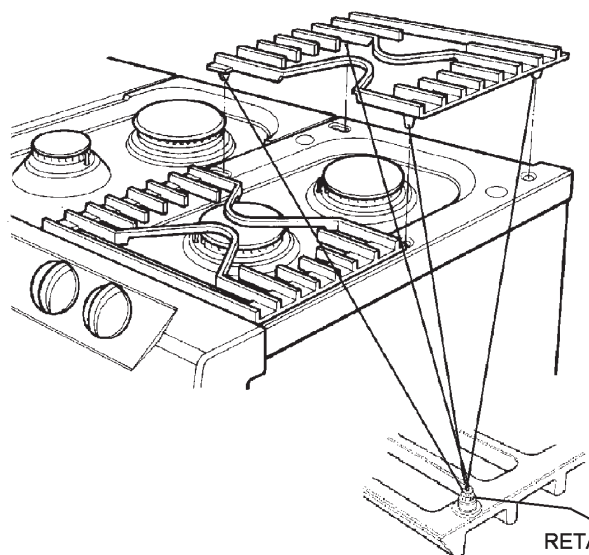

Fig. 8C
1. Loosen retaining nut using 8mm spanner (See Fig. 8C).